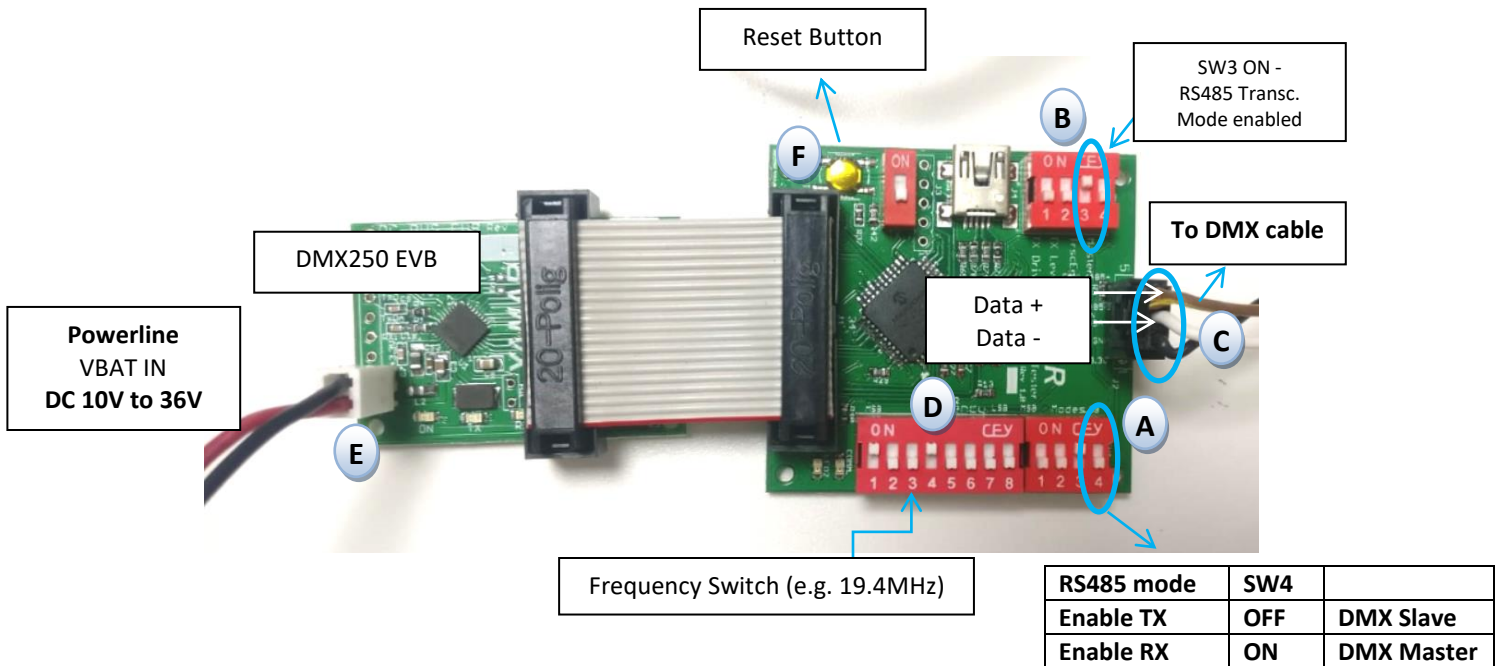

Figure 2 – DMX250 EVB and EVB Tester
1. Set the RS45 TX/RX mode using switch SW4: (See Point **A** in Figure 2 above).
2. Set SW3 ON to enable working with the on-board RS485 Transceiver (See Point **B** in Figure 2 above).
3. Connect DMX cable DATA+ and DATA- and GND to the connector as show in Point **C** in Figure 2 above.
4. Select a carrier frequency (See Point **D** in Figure 2 above).
5. Connected the powerline (See Point **E** in Figure 2 above).